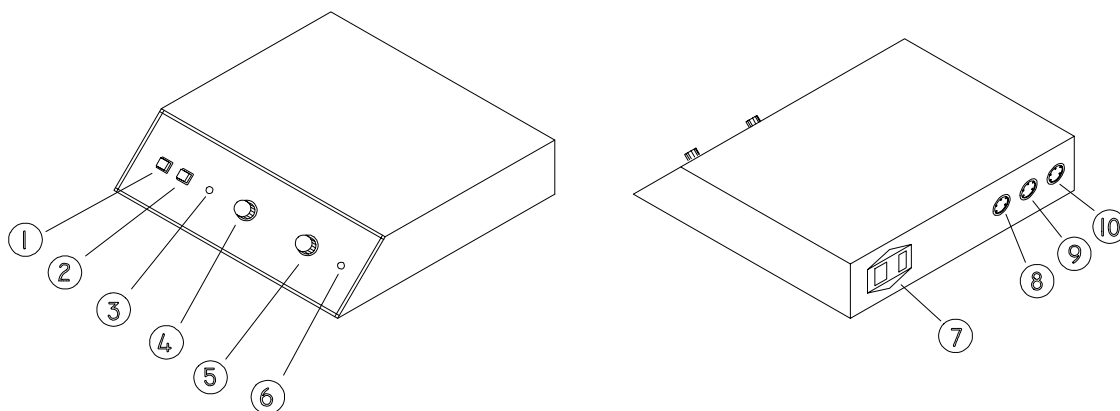

Fig. 4
Loosen the Allen screw (1) and adjust the bottle guide (2) to the greatest possible distance to the outer guide rail. The greatest distance is found by letting a bottle run along the bottle guide Fig. (2) When it reaches the picking wheel (Fig. 4) the bottle must enter the bottle sluice.